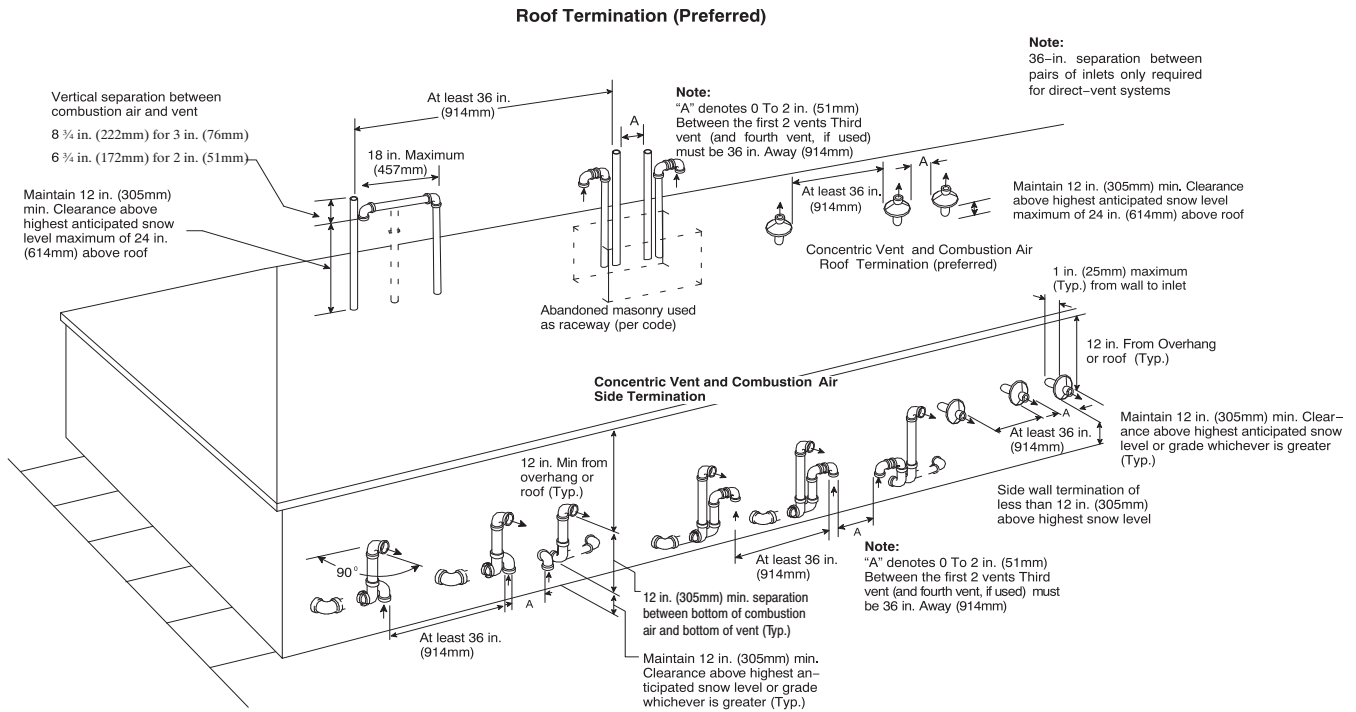
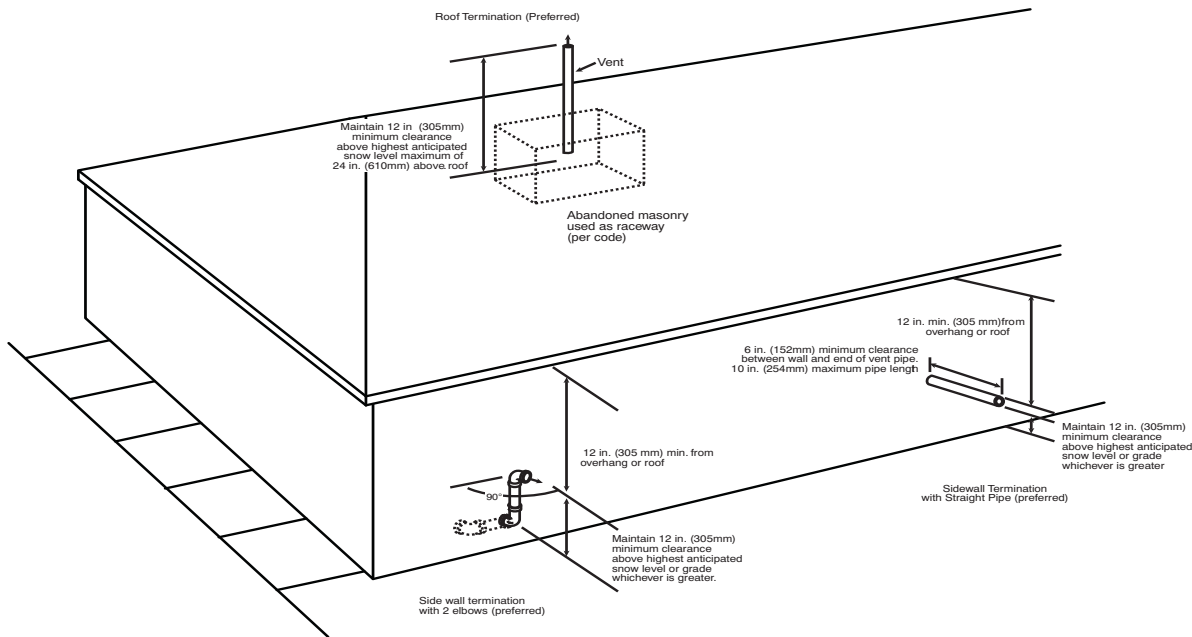
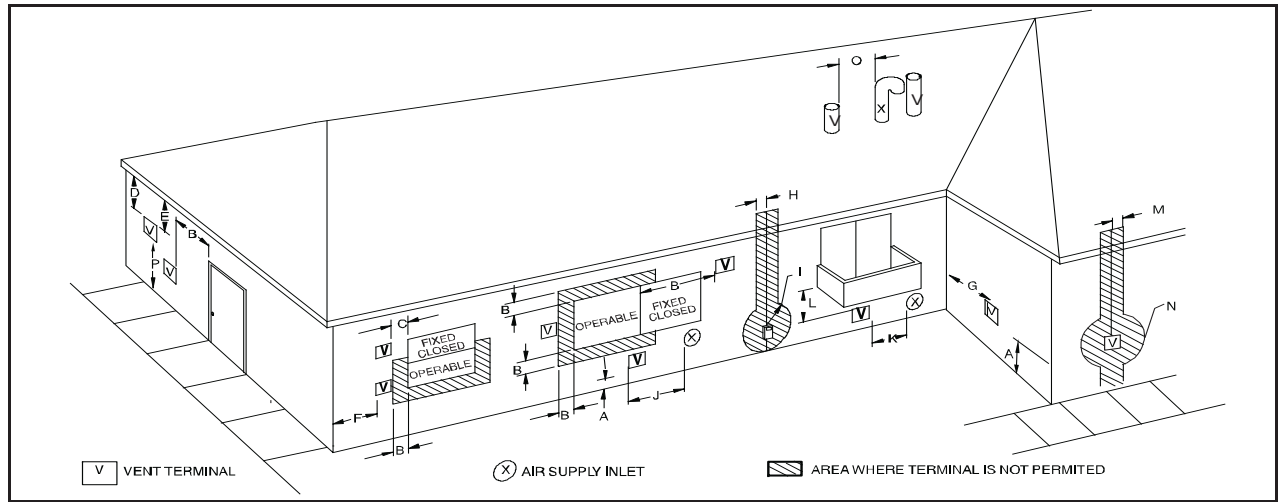
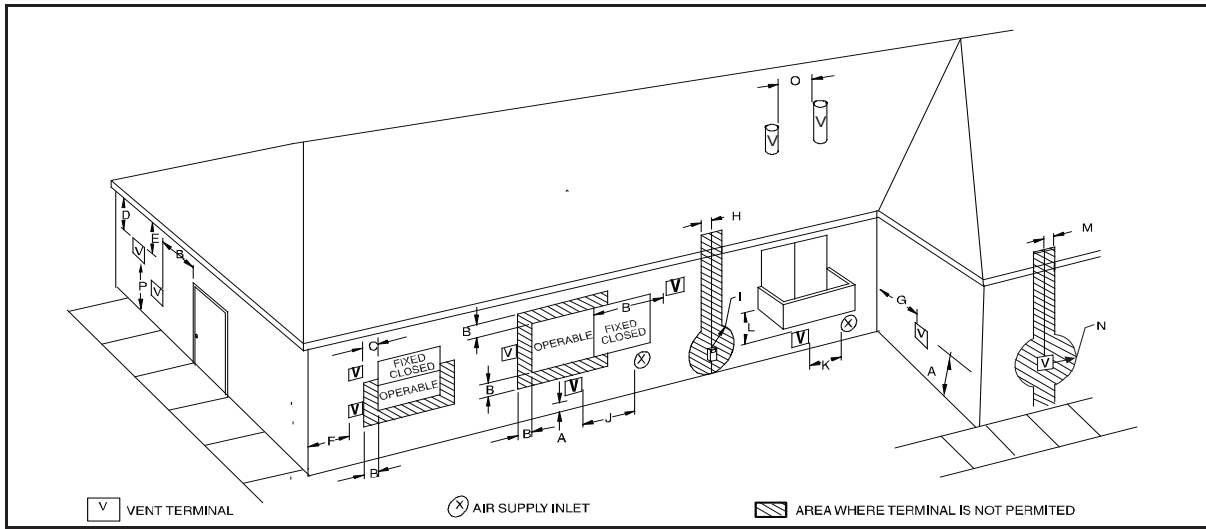

Fig. 40 – Combustion Air and Vent Pipe Termination for Direct Vent (2-Pipe) System
Fig. 41 – Vent Pipe Termination for Non-Direct Vent and Ventilated Combustion Air System
Fig. 47 – Direct Vent Termination Clearance
Fig. 48 – Ventilated Combustion Air and Non-Direct Vent Termination Clearance
An abandoned masonry chimney may be used as a raceway for properly insulated and supported combustion-air (when applicable) and vent pipes. Each furnace must have its own set of combustion-air and vent pipes and be terminated individually, as shown in Fig. 40 for Direct Vent (2-Pipe) system, or Fig. 41 for single-pipe or ventilated combustion air option.
For vent termination clearance, references to National codes are shown in Fig. 47 for Direct Vent/2-Pipe system and Fig. 48 for Ventilated Combustion Air/Non-direct Vent/1-Pipe system. For exterior termination arrangements, refer to Fig. 40 for Direct Vent/2-Pipe system and Fig. 41 for Ventilated Combustion Air/Non-Direct/1-Pipe system. Contact Local code authorities for other requirements to and/or exemptions from the National codes shown in the figures.
1. Comply with all clearance requirements stated in Fig. 47 or Fig. 48 per application.
Direct vent (2-pipe) vent and combustion air pipes must terminate outside the structure. See Fig. 47 For references to vent clearances required by National code authorities. Allowable vent and combustion air terminations are shown in Fig. 40.
The vent pipe for a Ventilated Combustion Air System must terminate outdoors. See Fig. 48 for references to vent clearances required by National code authorities. Allowable vent terminations are shown in Fig. 41. The combustion air pipe terminates in a well-ventilated attic or crawl space. Follow the clearances as shown in Fig. 46.
The vent pipe for a Non Direct Vent (1-pipe) system must terminate outdoors. See Fig. 48 for references to vent clearances required by National Code authorities. Allowable vent terminations are shown in Fig. 41.